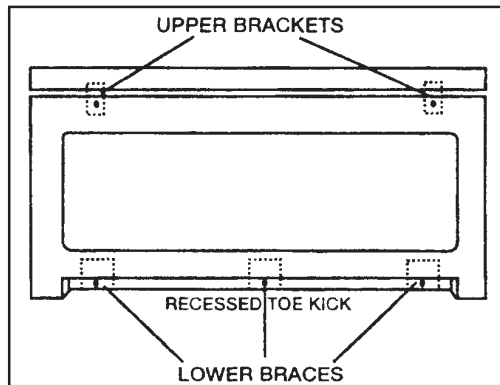

figure 6
2. Mount (3) lower braces to floor approximately .25" behind line (1 center of skirt - 1 on each end of toe kick).
3. Lift skirt until seam between tub and skirt is minimal, screw (5) into place. (figure 6)